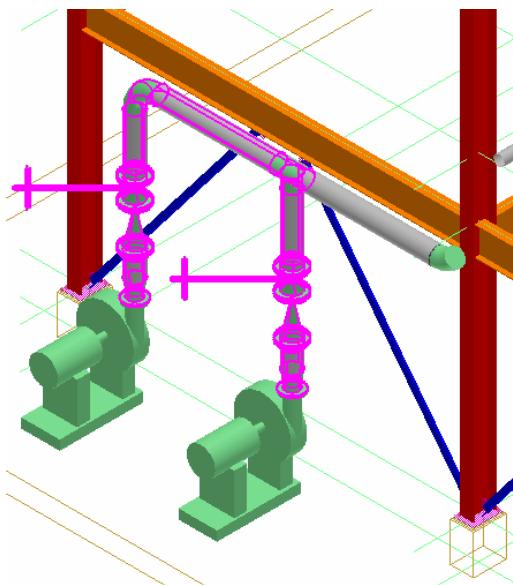

Figure 4: Piping Parts of Pipeline 1001-P
1. Select the piping parts of the pipeline **1001-P**, as shown in Figure 4, to assign them to isometric sheet number **A**.